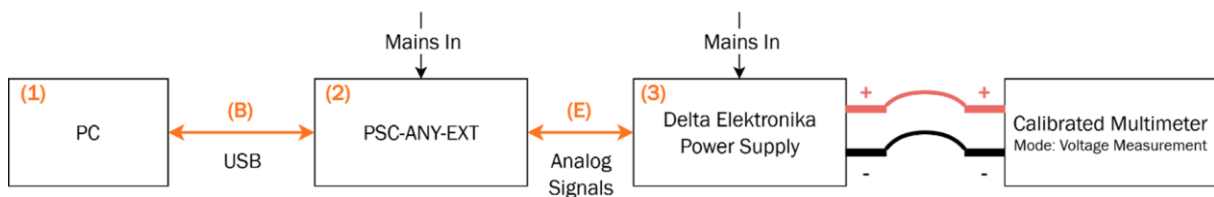
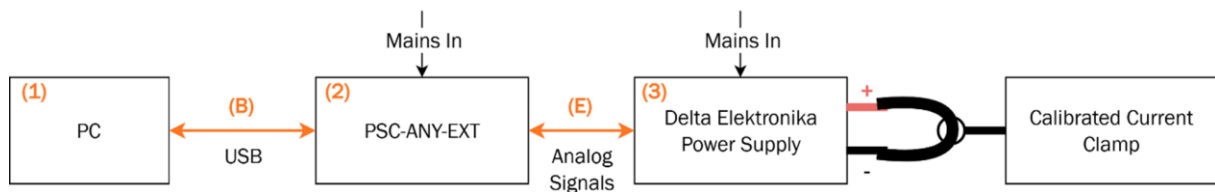

Figure 7.1: CV-Calibration setup
Figure 7.2: CC-Calibration setup
Make sure that the conductor between the output terminals during CC-calibration is thick enough to handle the maximum current the power supply can provide. The power supply will be set to 100% current during calibration. Make sure that each step is read and executed carefully. See Figure 7.1 and Figure 7.2 for the individual calibration setups.
2. Set up the CV-Calibration configuration as seen in Figure 7.1.
- Set up the current calibration configuration as seen in Figure 7.2.